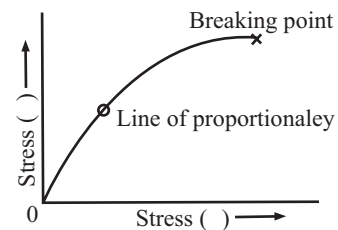

Fig. 14.8
- (b) **Stress strain curves for brittle materials** : Materials which show very small elongation before they fracture are called brittle materials. The shape of curve for a high carbon steel is shown in Fig. 14.8 and is typical of many brittle materials such as G.I, concrete and high strength light alloys. For most brittle materials the permanent elongation (i.e., increase in length) is less than 10%.